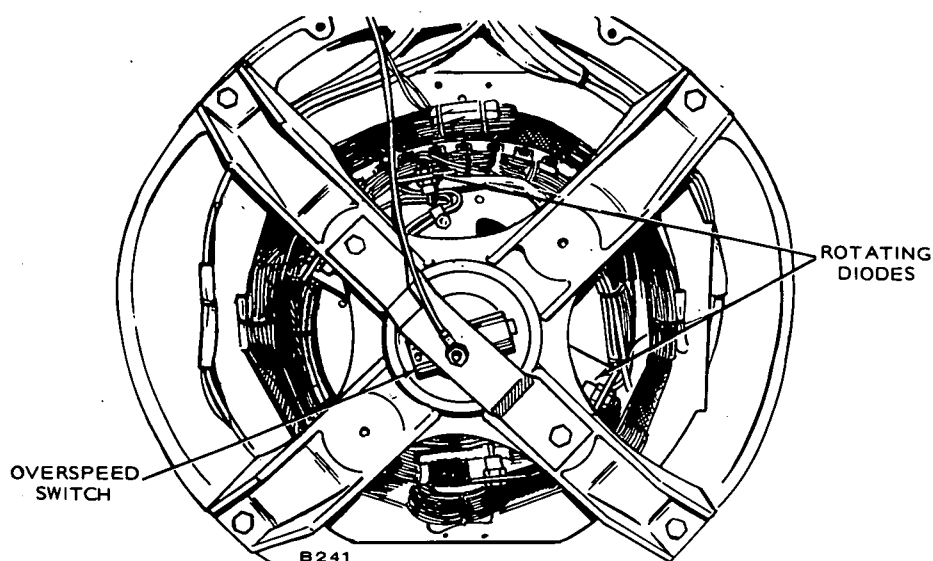

FIGURE 4. OVERSPEED SWITCH
- b. Overspeed (engine speed reaches 2100 r/min). See Figure 4.